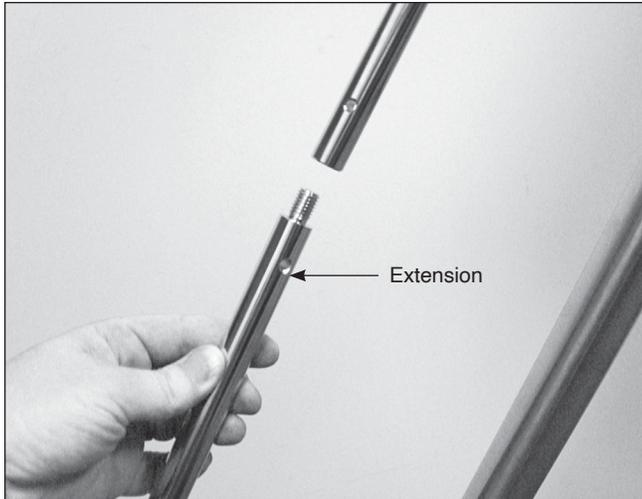

Figure 5. The counterweight shaft extension threads into the end of the counterweight shaft.
4. The Atlas mount comes with a 7-1/4" (184mm) counterweight shaft extension, which can be installed at this point if necessary for balancing heavier payloads (**Figure 5**). Ensure that the extension is tightly secured before installing counterweights.